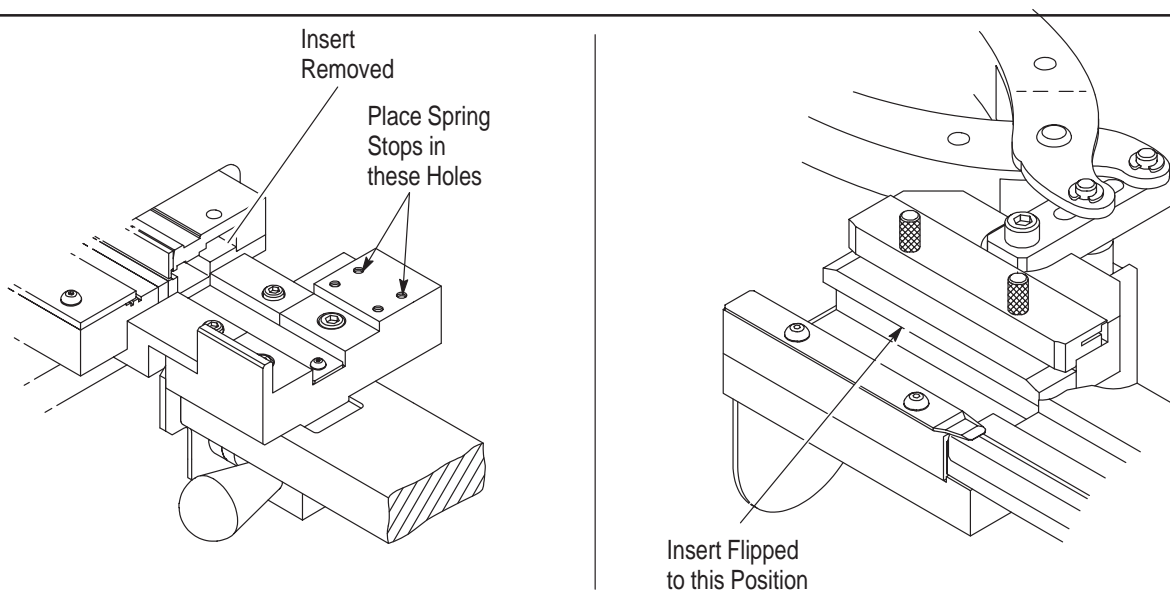

Figure 12
4.2. Changeover to Shrouded Product (Figure 12)
To change the machine over for use with shrouded product, three things must occur: the tube feed station must have the spring stops moved; the insert in the termination station must be removed; the insert in the seating station must be flipped to the opposite position. Refer to Figure 12 and proceed as follows: